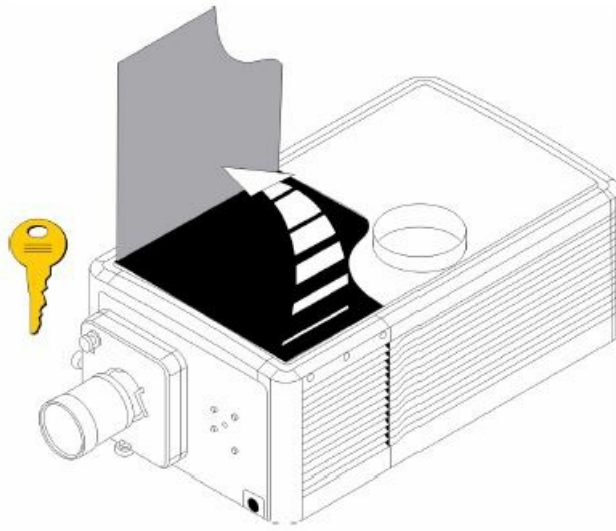

Figure 2
2. Remove the front lid. (Figure 2)